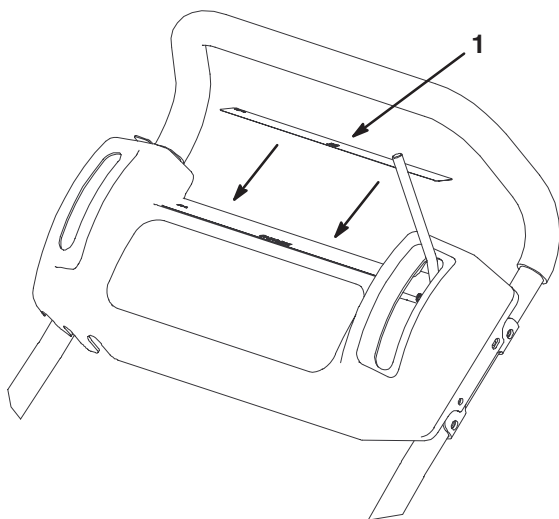

Figure 5
1. For CE conformity, affix warning decal (Fig. 5) over existing warning decal on top of console panel.